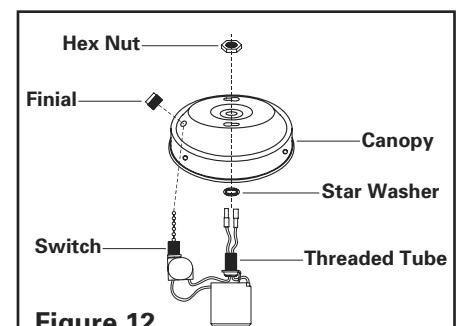

Figure 12
- If you want to replace the canopy for the fan light kit, please loosen the hex nut and finial to release the canopy (See figure 12).
- When re-installing, please place the canopy, star washer over the threaded tube, then tighten with hex nut. Take the switch through the side hole of the canopy then tighten with the finial. (See figure 12).